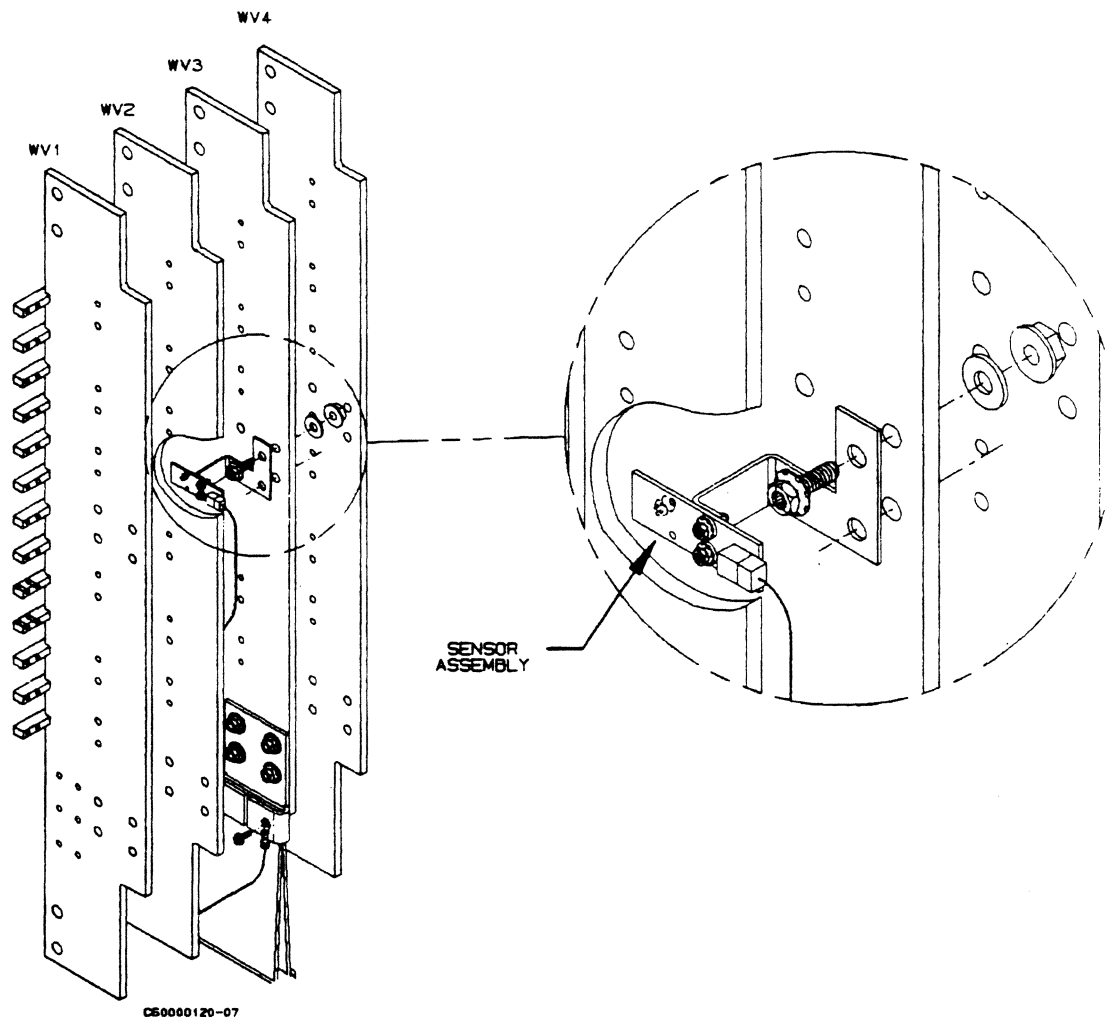

Figure 3-27. Install Bus Bar Temperature Sensors
- 2. Attach temperature sensor assembly to WV3 as shown in figure 3-27. Torque screws to 7.3 N·m (65 lbf·in).